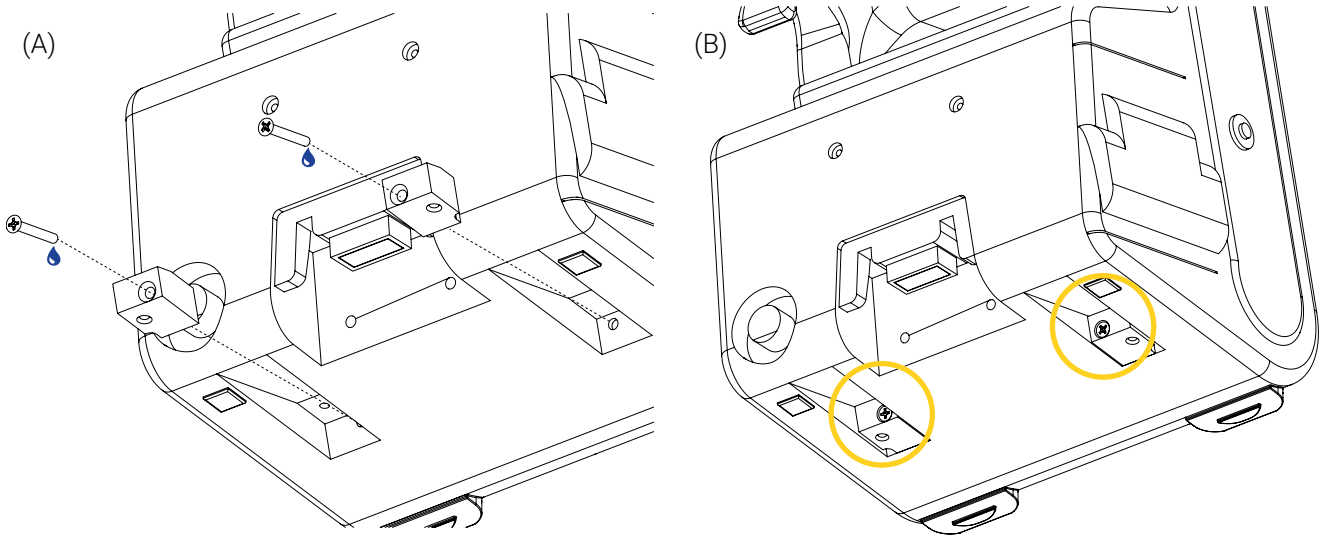

Figure 12: Installing the left and right mounting blocks under the medical device
5. Install the left and right mounting blocks under the medical device using two (2) M4 X 30 mm x 0.7 mm flat head Phillips screws, thread lock adhesive and a Phillips screwdriver (Figure 12).